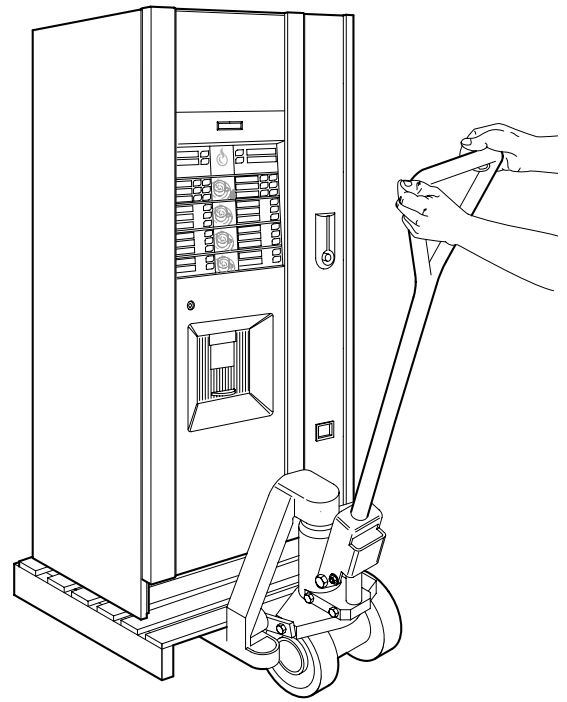

Fig. 3.1
3.1 Moving and transport (Fig.3.1)